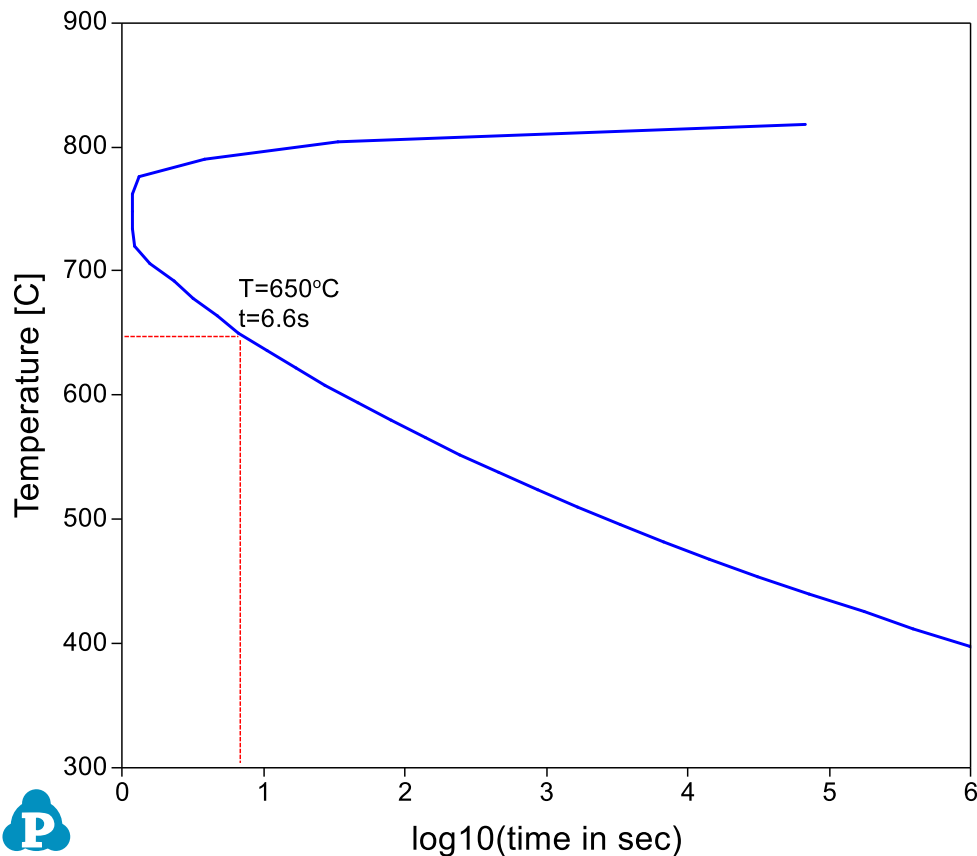

Figure 3.2.2: TTT curve for Ni-14Al (at%) when 2% of equilibrium L12_FCC formed
- Figure 3.2.2 shows the default plot from the calculation. It should point out that this TTT curve represents the time-Temperature curve when 2% of the equilibrium precipitate at each temperature comes out. For example, the equilibrium fraction of L12_FCC precipitate phase is 16.56% at 650°C, 2% of it is 0.33%. In other words, it takes 6.6 second to precipitate 0.33% of L12_FCC at this temperature.